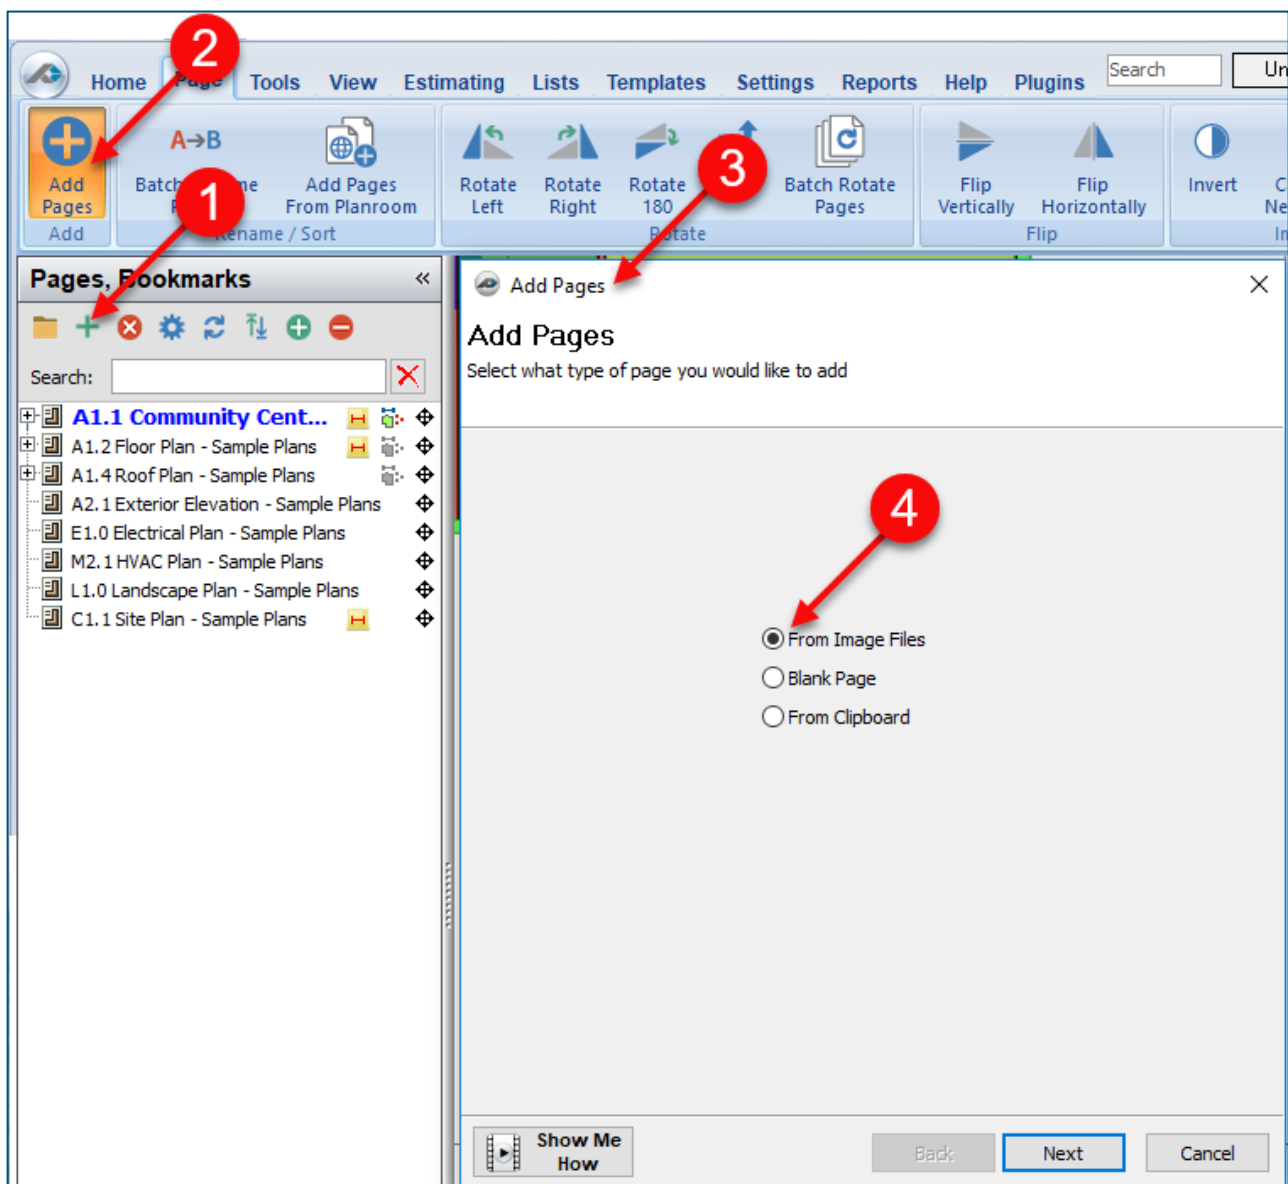

Figure 6-A
4. If you want to select a new page from existing image files, click on **From Image Files** and click on **Next**. This opens the **Image Files** window (Fig. 6-B).
5. Click on **Browse** to locate the folder with the image files in the **Browse for Folder** (Figure 6-B).